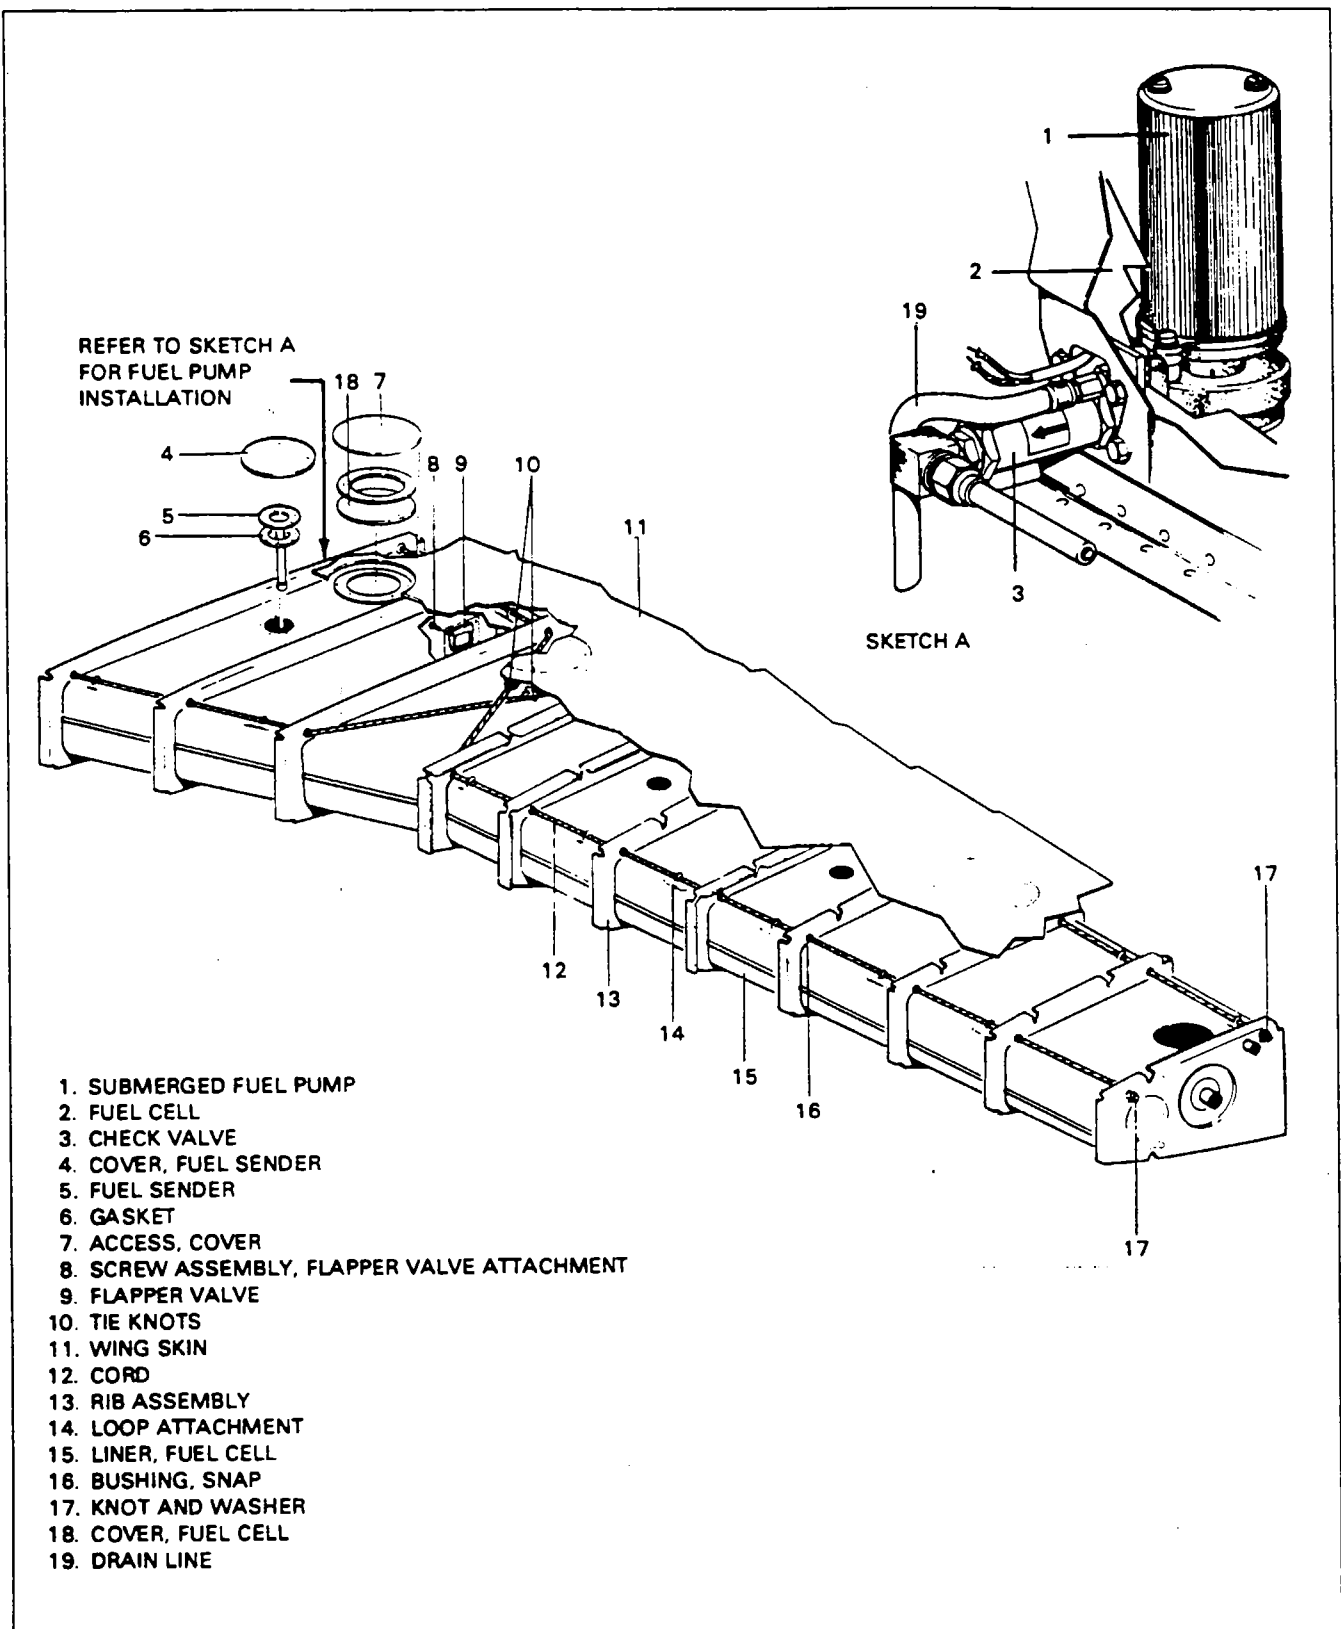

Figure 28-5. Fuel Cell Installation (Inboard)
REMOVAL OF WING FUEL CELLS. (Refer to Figures 28-5 and 28-6).
INSTALLATION OF WING FUEL CELLS. (Refer to Figures 28-5 and 28-6).
7. From each end of the cell compartment, feed the cord through the cell hangers and rib bushings until the cords can be joined at the access openings. Do not tie cord yet. The cords are routed as shown in Figures 28-5 and 28-6.